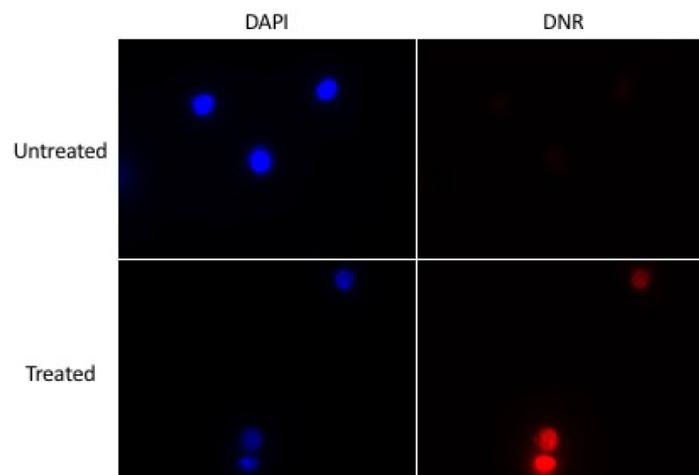

Figure 14. Example of images to be obtained
5. Using a control sample, set the light intensity and the exposure time so the daunorubicin is clearly visible, but not saturated (Figure 14).